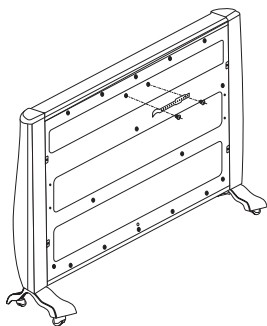

Figure 3
3. Install the provided handle at the back of the appliance by fixing the two screws as shown (Figure 3) with 2 screws of 4*14 is fixed into the correspond hole.